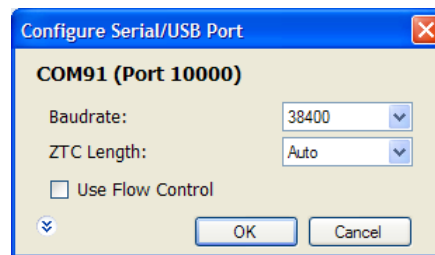
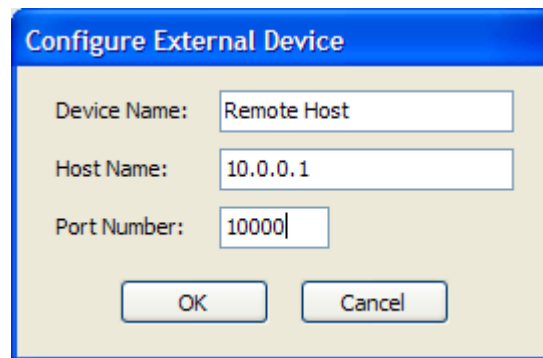

Figure 2-7. Command Console Local Port Configuration Window
Figure 2-9. External Device Configuration
1. On the Device List tool bar, click the Settings button. A configuration dialog window appears as shown in Figure 2-7.
It is also possible to select a device which is actually connected to a remote PC using TCP/IP connectivity. In this case, click the Add External (TCPIP) Device on the Device List Tool bar. A configuration dialog appears as shown in Figure 2-9. Enter the IP address or hostname of the remote computer. The TCP/IP port number can be discovered by looking at the top of the configuration settings window of the physical board on the remote PC (see Figure 2-7) and observing the value corresponding to the port. Ensure that any firewall running on the remote host will allow incoming connections to the respective port.